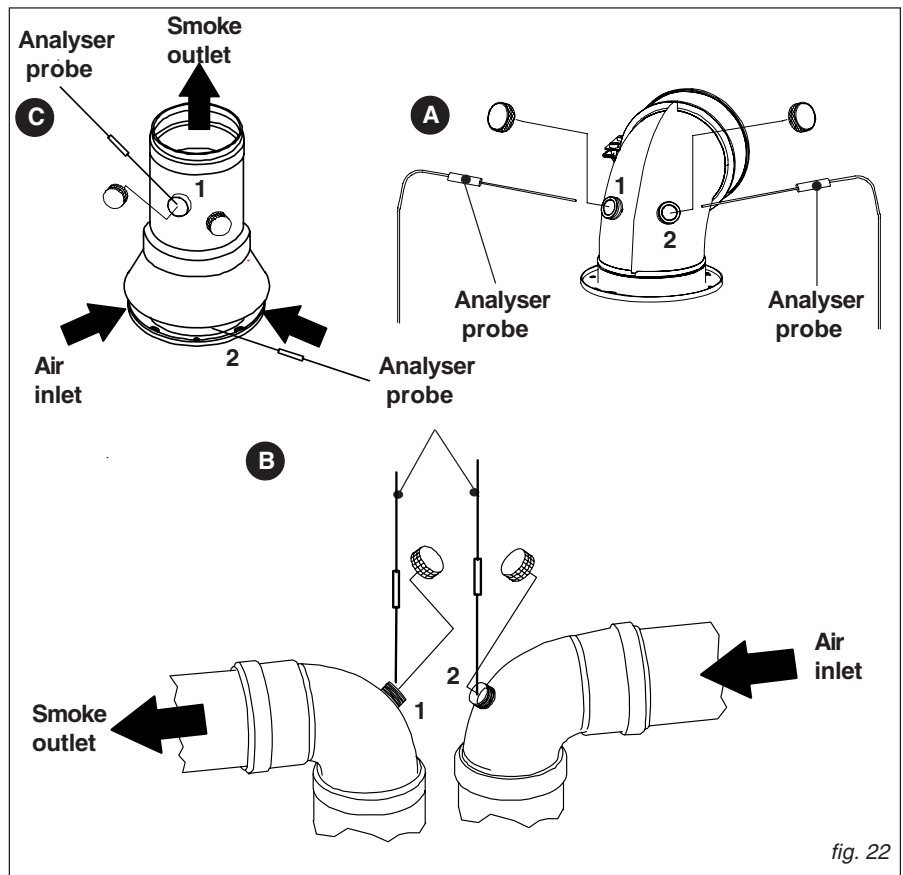

fig. 22
- the combustion air temperature measured in hole 2 (see fig. 22).
- the flue gas temperature and CO2 % measured in hole 1 (see fig. 22).